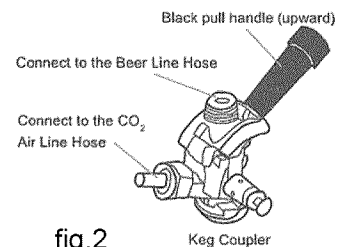

fig.2
2. Attach the open end of the red air hose line to the hose barb connection on the keg coupler. Next, secure the hose by using the remaining self-locking plastic snap-on clamp to ensure that there are no leaks. Secure the clamp tightly with pliers. (see fig. 2)